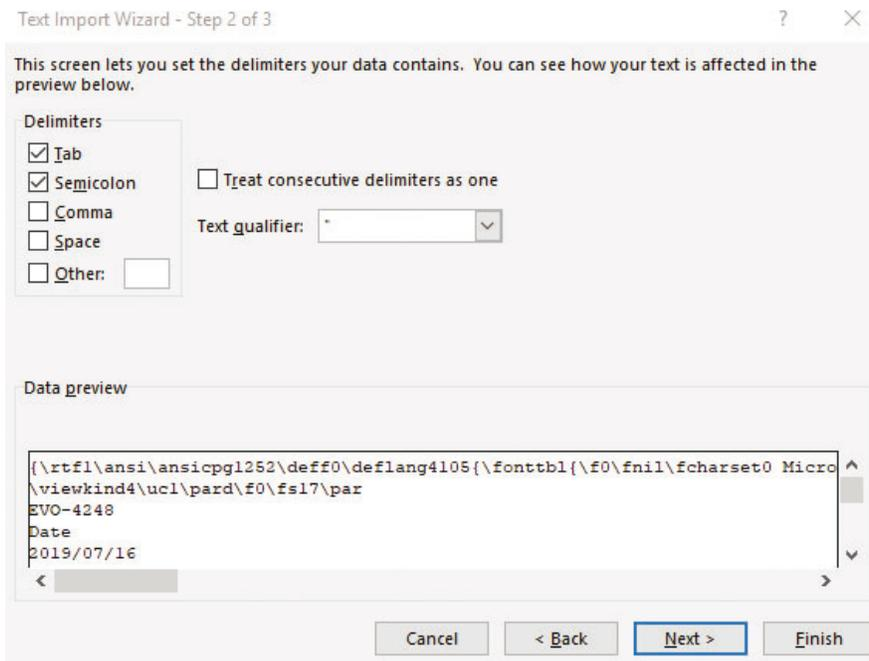

Fig 5.6 Screen showing Step 2 of 3 of "Text Import Wizard" in Excel
- Text Import Wizard – Step 2 will appear (*See Fig 5.6*). Choose "Semicolon" and click 'Finish' button.